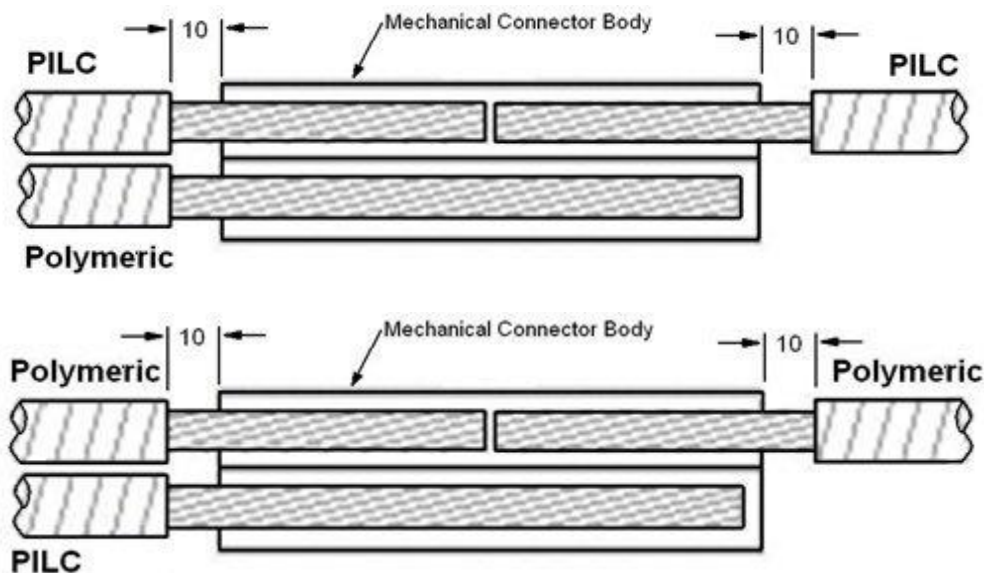

Figure 22-1 - Constructing a Transition Tee Joint
- Where the transition tee joint comprises of two PILC cables and one polymeric cable, or two polymeric cables and one PILC cable, the two cables of the same type (i.e. two PILC cables or two polymeric cables) shall come into the joint from opposite ends, so that the cables of the same type shall share the same tunnel of the connector as shown in Figure 22-1 below.